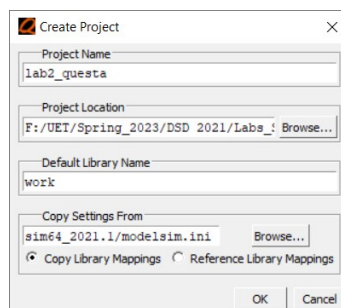

Fig. 2.3: Create Project window.
2. When prompted, enter the project name and browse the *Project Location* to the folder containing RTL code and the test bench code. Then click on *OK* (Fig. 2.3).